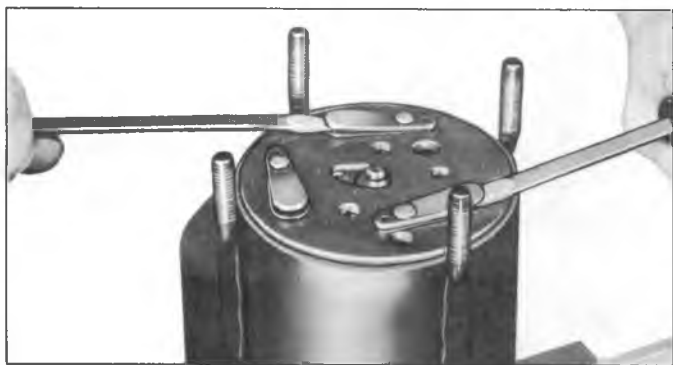

Fig. 14—Removing Rear Discharge Valve Plate
7. With two screw drivers, carefully pry up on the rear discharge valve plate assembly (fig. 14). Check for broken reeds or damaged seats and replace entire assembly if such is found.